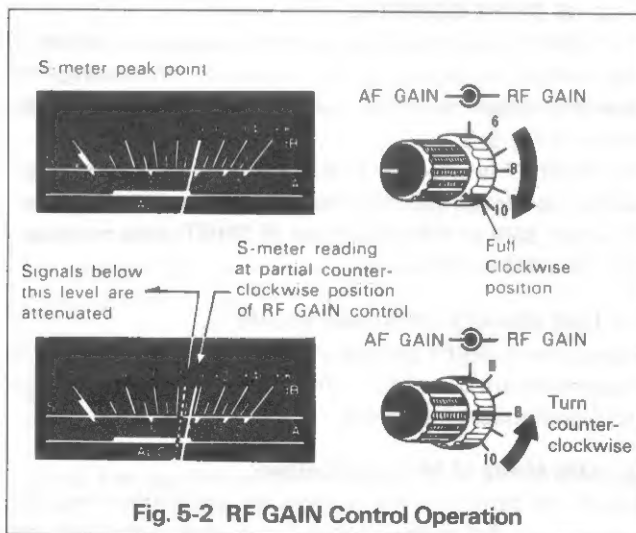

Fig. 5-2 RF GAIN Control Operation
5.1.4. RF GAIN CONTROL (Fig. 5-2)